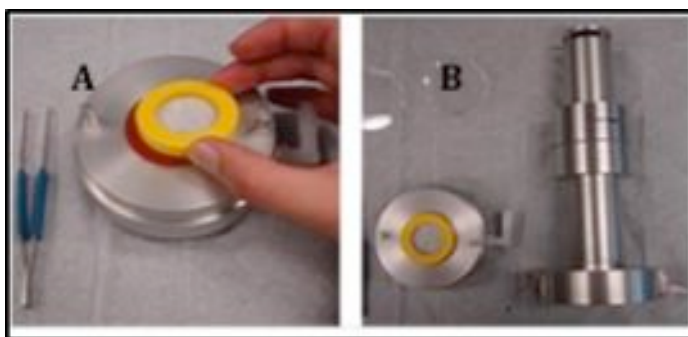

Figure 3: Proper placement of the filter cassette inside the HI
- ii. Place the loaded filter cassette into the recessed hole containing an orange rubber gasket located in the base of the Impactor (**Figure 3**). Cassette should be placed in orientation as **Figure 3b**;